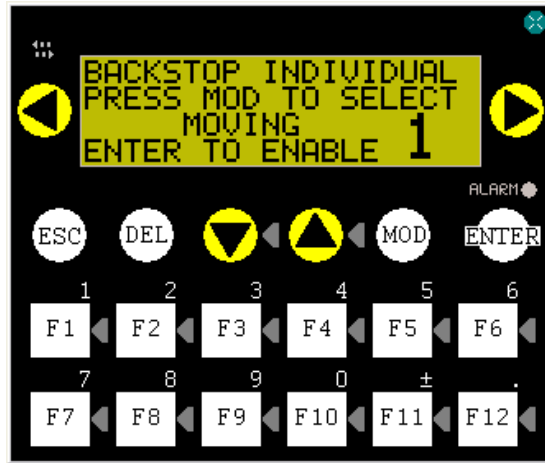

Figure 3
Simply follow instructions on the screen to select and use the arrows up and down. The button will say “Active” when not moving and “Moving” when the up or down button is pushed. See figure 3.
- 3) Select the device or block you wish to move. See figure 3.